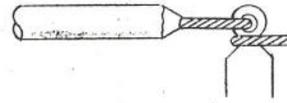

Figure 5-8. Soldering Perforated Terminal
f. **SOLDERING PERFORATED TERMINALS.** - Secure the conductor to the terminal mechanically by forming a hook on the conductor and crimping it on the terminal with long nose pliers. (Figure 5-8.) Heat the connection be-